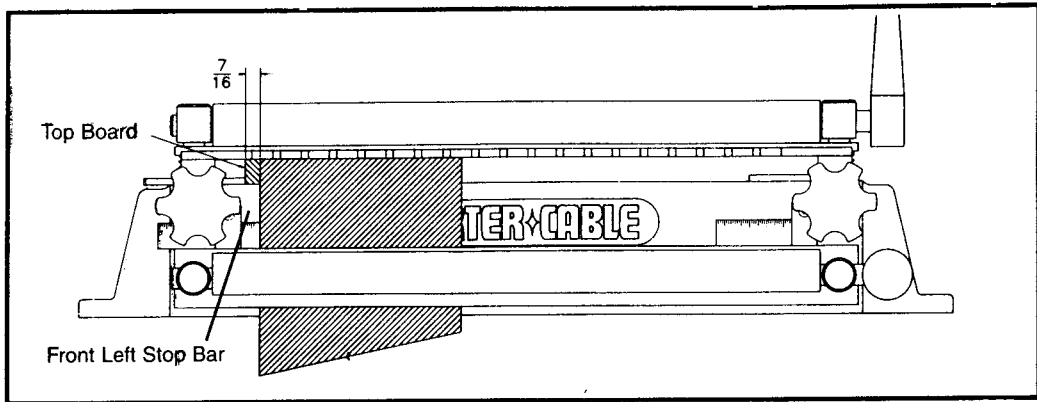

Fig. 9
- Loosen front clamp and raise left side of drawer so that it touches bottom of templet $\frac{7}{16}$ " (see Fig. 9), from left edge of top board and clamp in place.